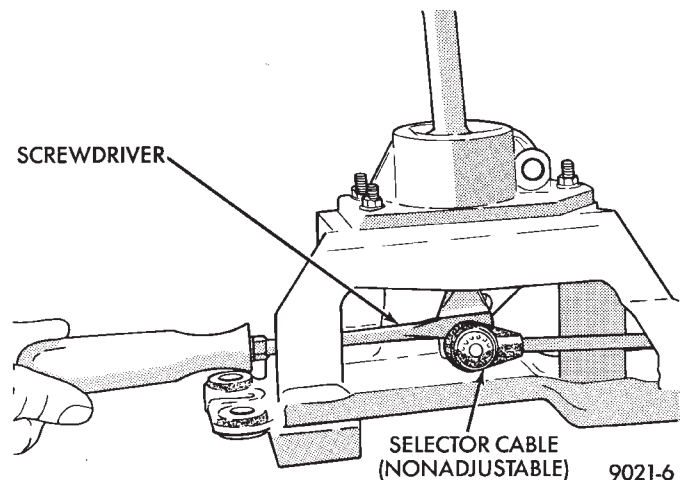

Fig. 6 Remove Cables
(5) Remove or install selector and crossover cables (Fig. 6 or 7).